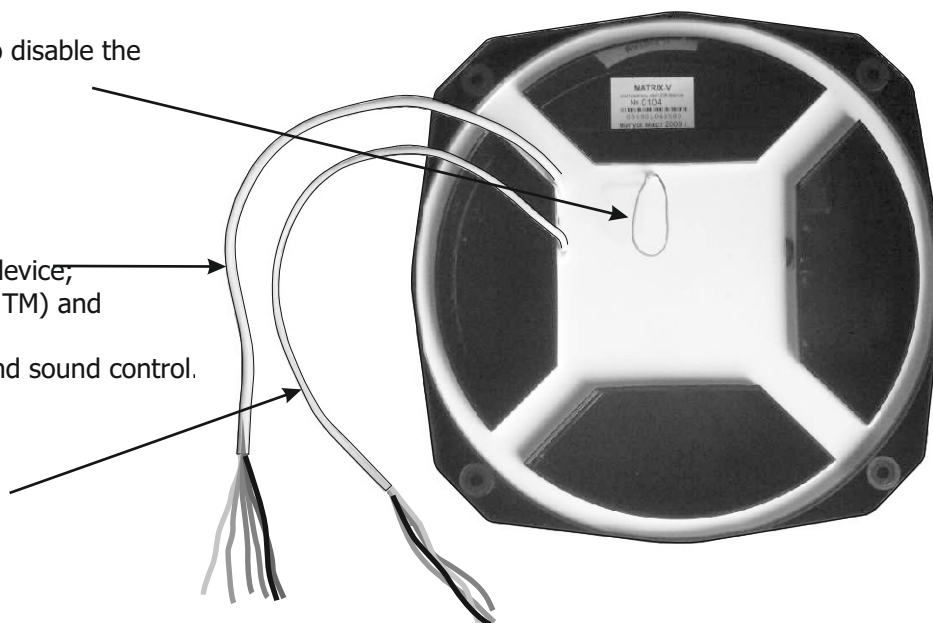

Figure 2.Reader backview.
- Connect the wires per Figures 2, 3, 4, 5.